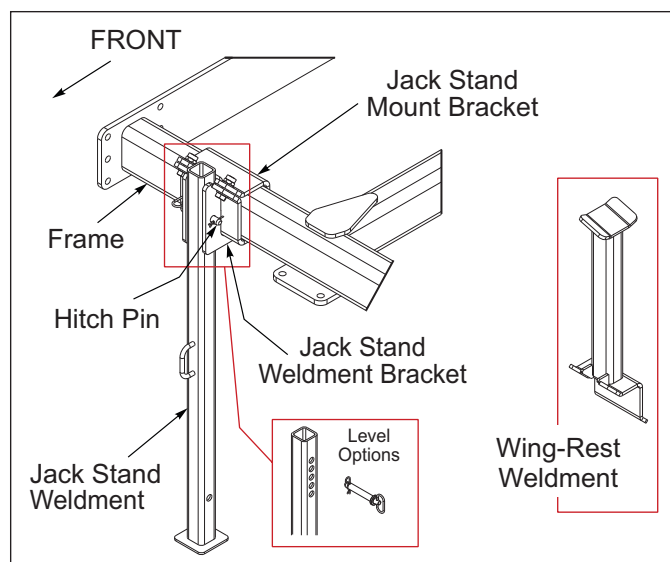

Figure 3-1: Front Jack Stand
2. Insert the Jack Stand Weldment into the Jack Stand Weldment Bracket with the handle facing out and pin at desired level (top five holes), with 3/4 x 4 Hitch Pin and Hair Pin. *See Figure 3-1.*
1. With the Jack Stand Weldment Bracket positioned on the bottom side of the front Frame, (clamp facing out), attach the appropriate Wing-Rest Weldment using 3/4-10 x 2-1/4 Bolts, 3/4 Flat Washer and 3/4-10 Locknut. (The Wing-Rest Weldments have right hand and left hand designations. The left hand Wing-Rest Plate Stops slope down toward the left and the right hand Wing-Rest Plate Stops slope down toward the right. See Parts Manual for Wing-Rest Weldments according to model number.) *See Figure 3-1.*